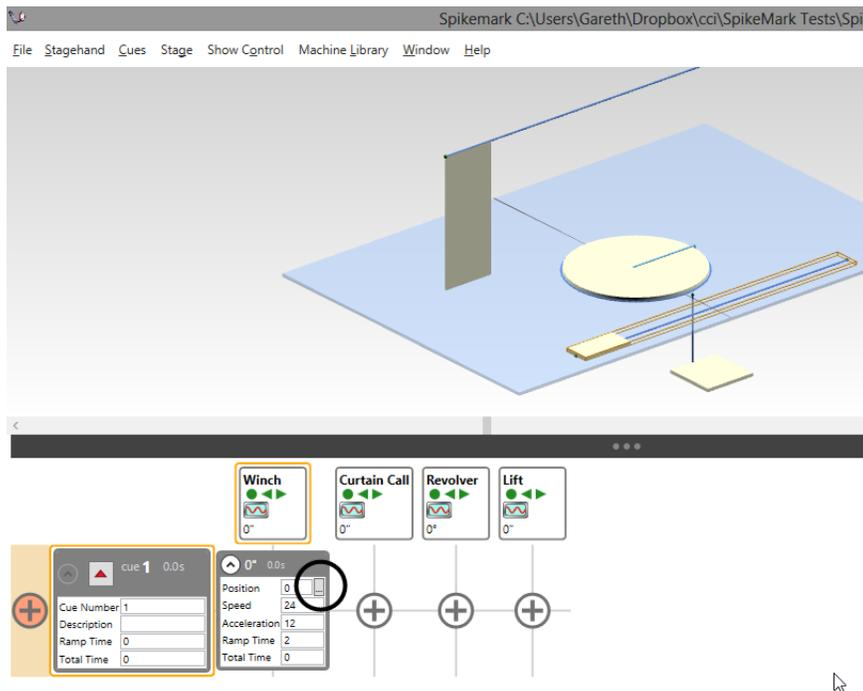

Figure 307
- Click on the **Spike Position** button in the motor's movement window (Figure 307).